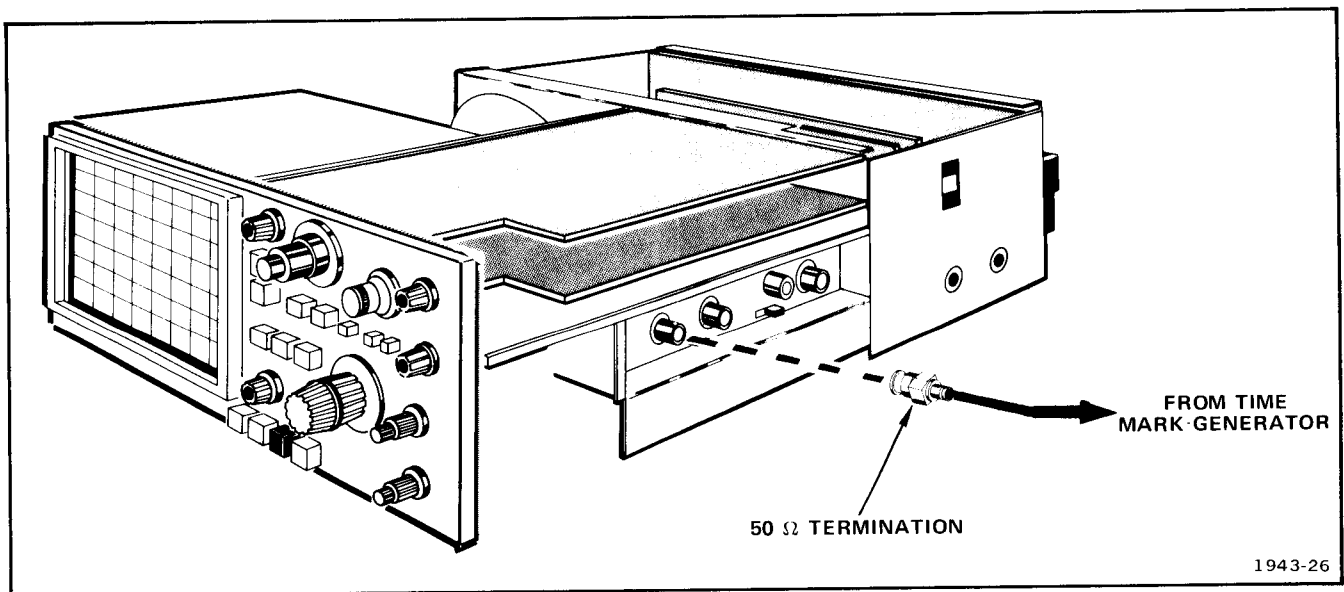

Fig. 6-3. Equipment setup.
b. Connect test equipment to CH 1 VERT INPUT connector as shown in Fig. 6-3.